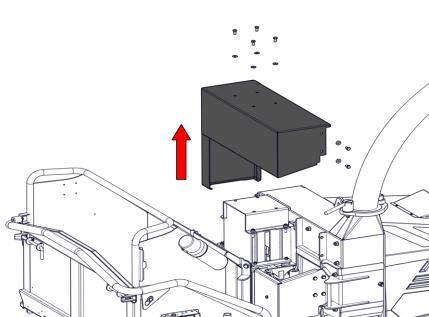

Figure 32 - Removing the Roller Box Guard
2. Unbolt and remove the roller box guard (Figure 32).